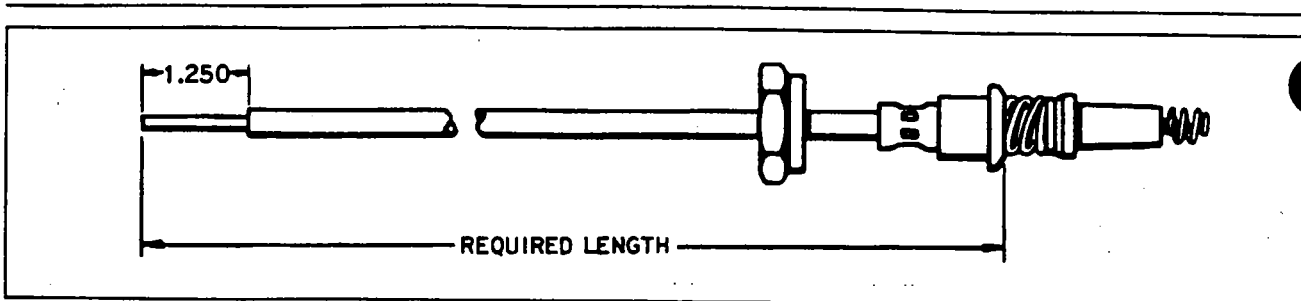

Figure 8-23. Measuring Lead Assembly Length
- (a) Measure the length of the condemned lead assembly. Move coupling nut back on lead assembly and measure from outer end of ferrule at spark plug end. See Figure 8-23.